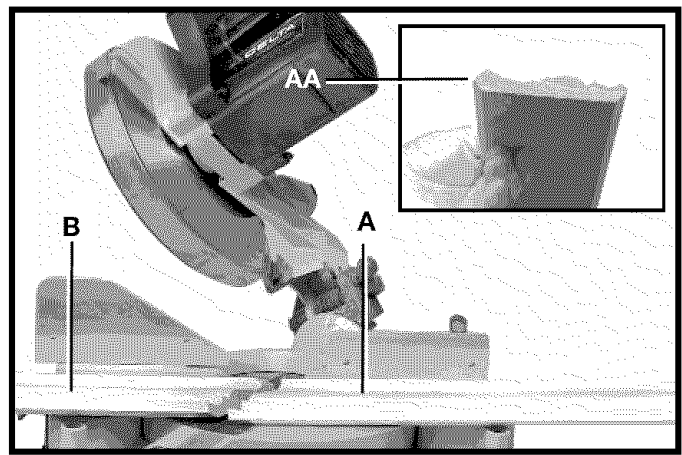
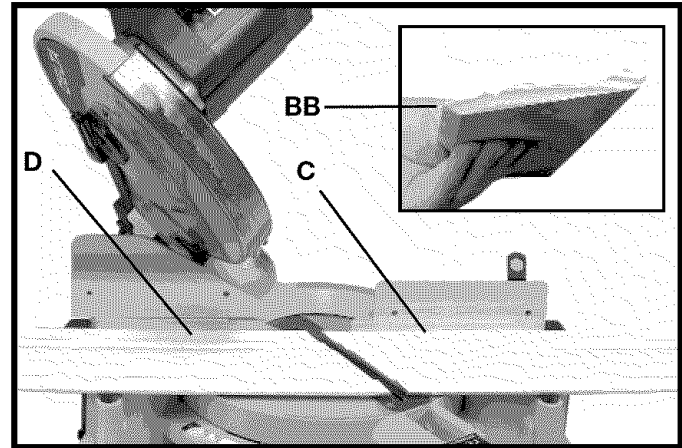
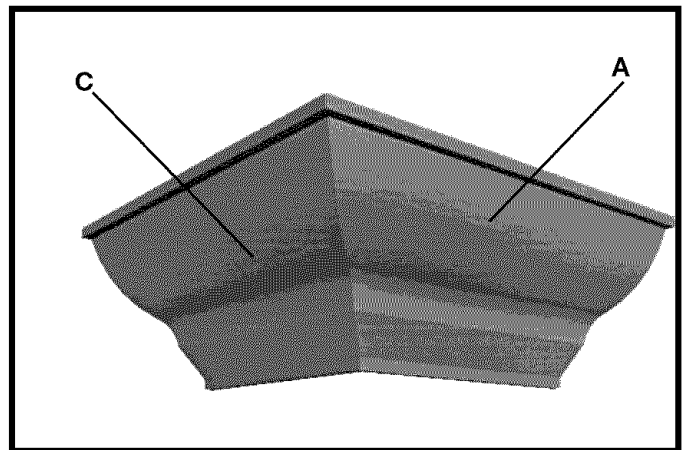
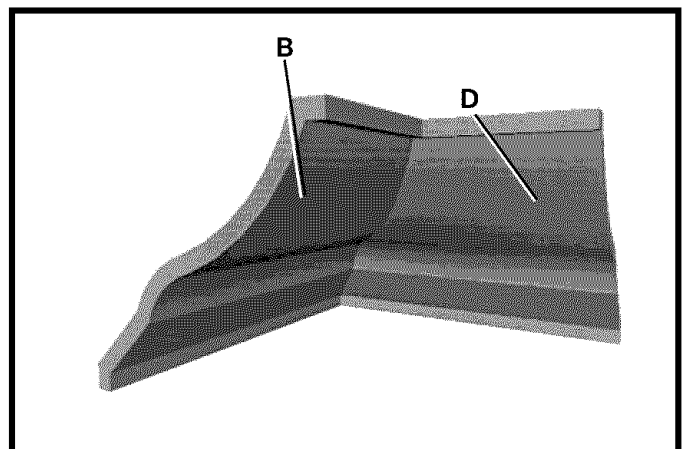

Fig. 35
Fig. 36
Fig. 37
Fig. 38
3. Place the crown moulding on the table with the **CEILING EDGE (AA)** Fig. 35 of the moulding against the fence, and make the cut (Fig. 35). **NOTE:** The piece of crown moulding used for the outside corner will always be on the right hand side of the blade (A) Fig. 35. The piece of crown moulding used for the inside corner will always be on the left hand side of the blade (B) Fig. 35.
5. Place the crown moulding on the table with the **WALL EDGE (BB)** Fig. 36 of the crown moulding against the fence and make the cut. Again, the piece of crown moulding used for the outside corner will always be on the right side of the blade (C) Fig. 36. The piece of crown moulding used for the inside corner will always be on the left side of the blade (D) Fig. 36.
6. Fig. 37 illustrates the two outside corner pieces - (A) being the piece cut at (A) Fig. 35, and (C) being the piece cut at (C) Fig. 36.
7. Fig. 38 illustrates the two inside corner pieces - (B) being the piece cut at (B) Fig. 35, and (D) being the piece cut at (D) Fig. 36.